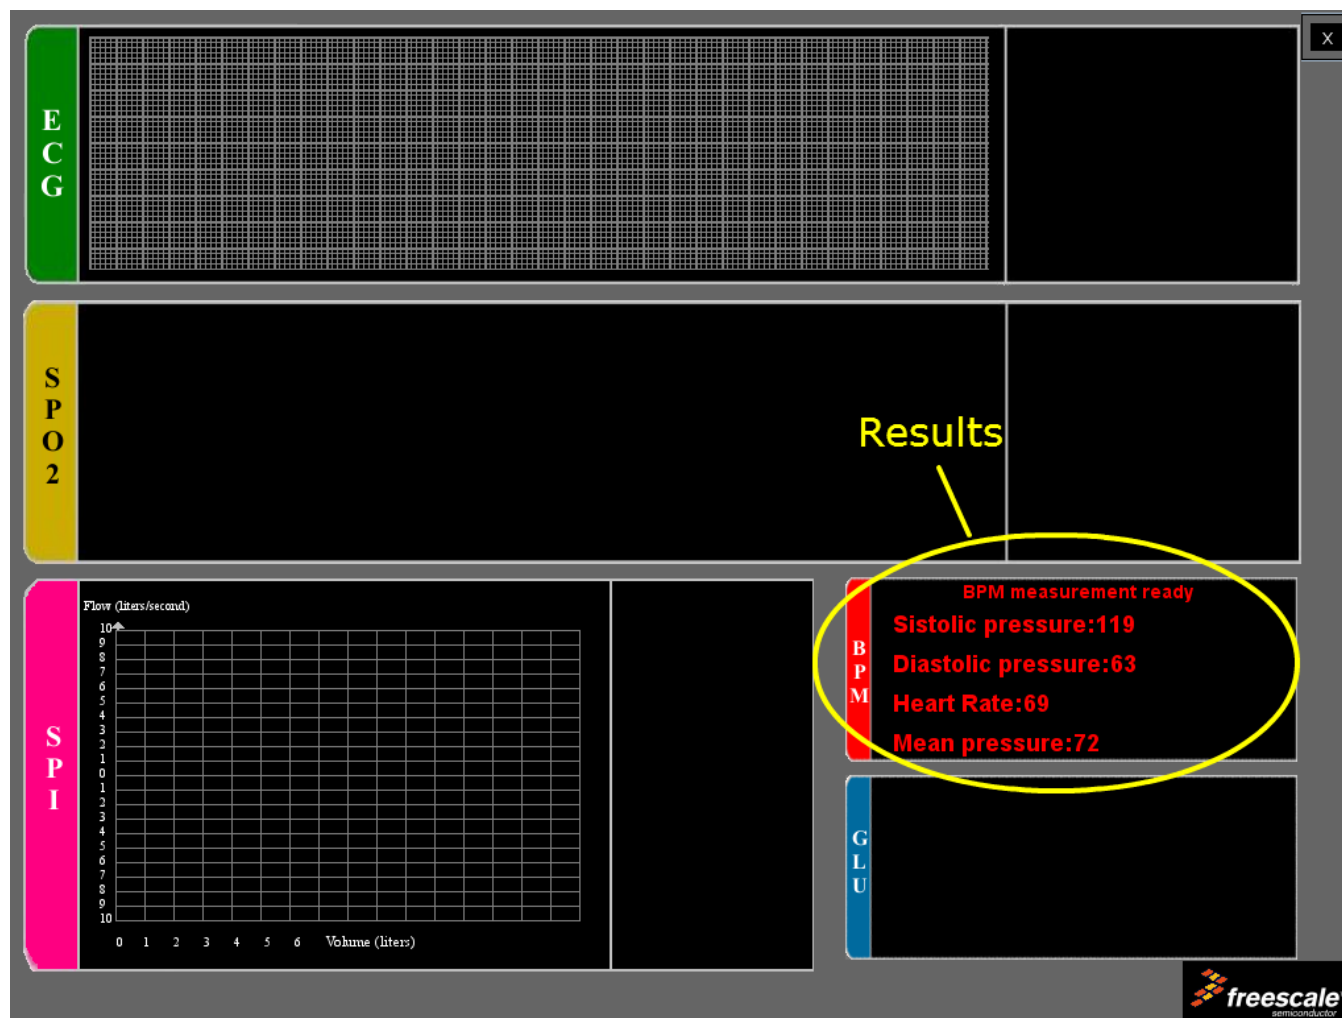

Figure 27. GUI running
6. Click the BPM area on the GUI. Measurements will start and after a while, the measurements will appear on screen (Figure 27).